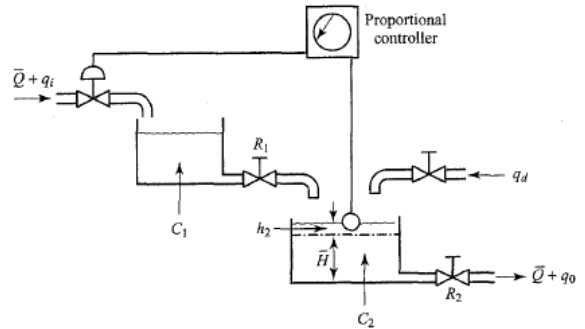

Figure 4-50
36. Consider the liquid-level control system shown in Figure 4-50. The controller is of the proportional type. The set point of the controller is fixed.